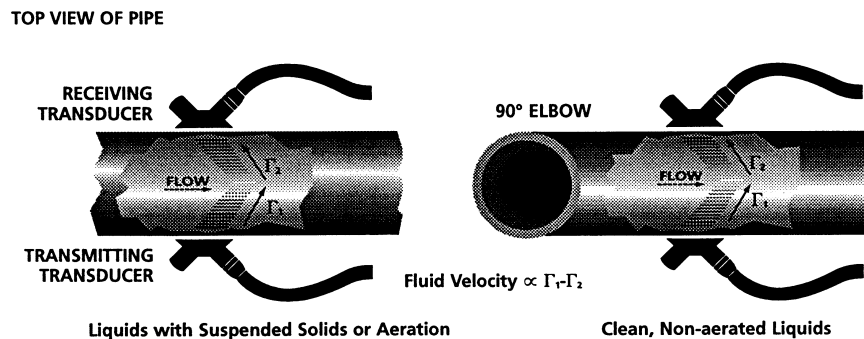

Figure 1 Transducer Locations
- A. Determine the appropriate mounting location for the transducers by referring to **Figure 1**.